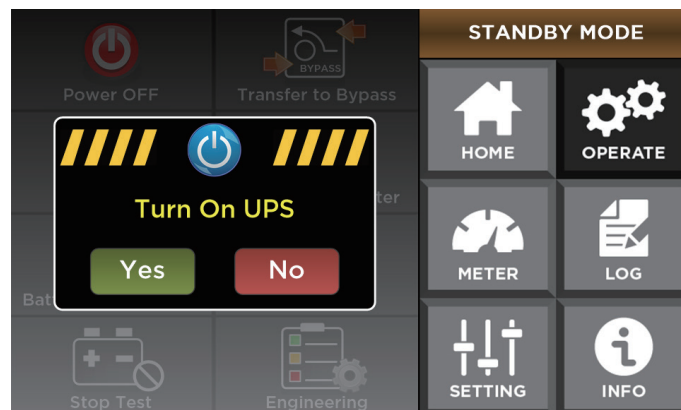

Fig.4-16 Parallel startup
3. Turn On Parallel system. At "UPS 1" Unit, select the page of "OPERATE" and press "Power On/off" as shown in Fig.4-16. And then... Other Parallel Unit will turn ON with UPS 1 together.